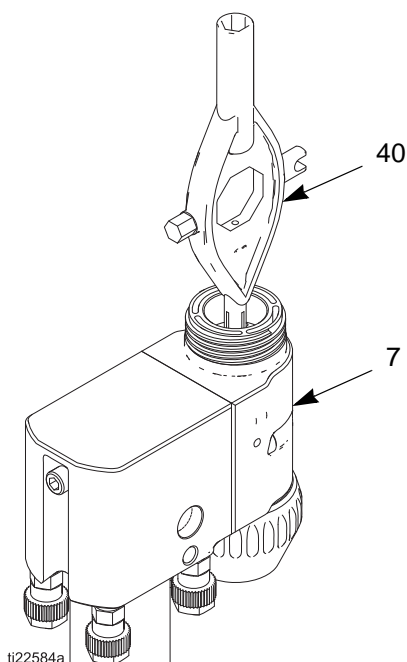

FIG. 31. Electrode Replacement
3. Unscrew the electrode (4) with the multi-tool (40) from the front of the gun body (7). FIG. 31.